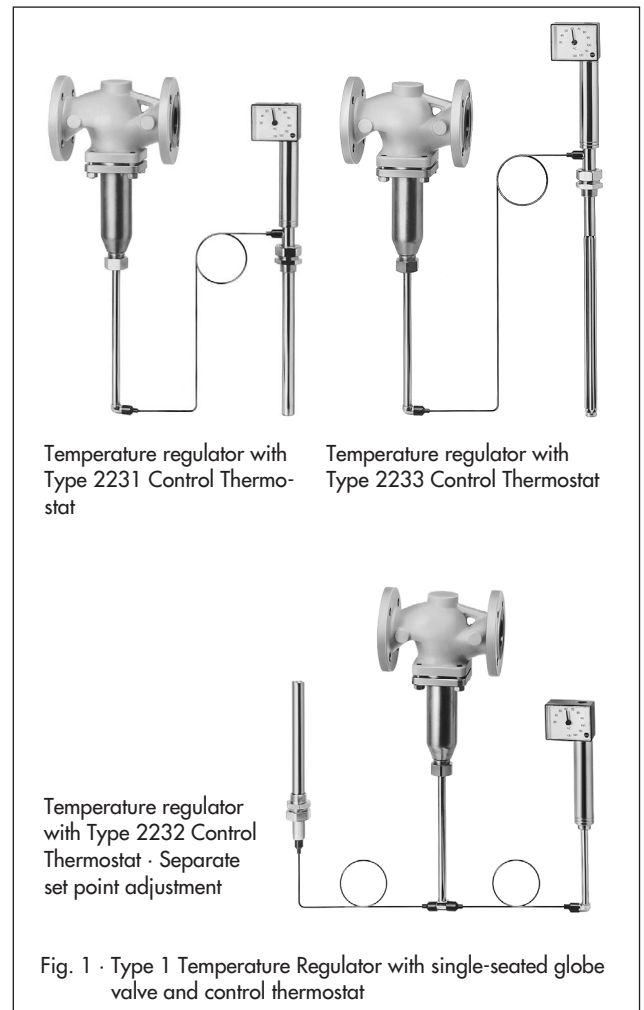

Fig. 1 · Type 1 Temperature Regulator with single-seated globe valve and control thermostat
Valve size NPS ½ to 2 · Class 125 to 300 · Face-to-face dimensions according to ANSI B16.10 · Types 2231 to 2235 Control Thermostats (see Fig. 1)
**Type 2111/2231** (Fig. 1) · With Type 2111 Valve and Type 2231 Control Thermostat for liquids · Set point adjustment at the sensor · Set points from 15 to 300 °F (-10 to +150 °C)